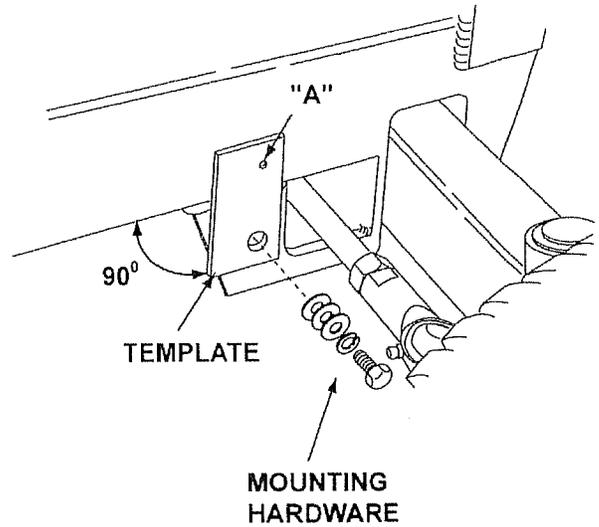

FIGURE 2
2. (See Figure 2) Position template (C47237) as shown. Fasten with 1/2" bolt, lockwasher and three 1/2" flat washers.